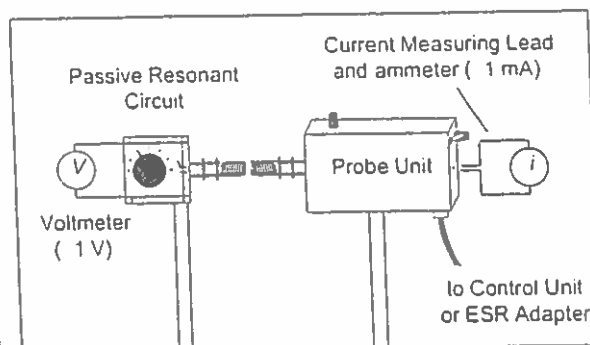

Figure A1 Setup for Using the Passive Resonant Circuit
The Passive Resonant Circuit can be used to demonstrate the principles of ESR using a classical (non-quantum) electromagnetic system. Set up the Probe Unit as for a standard ESR measurement, using the medium inductance probe coil. Instead of using the Helmholtz coils and the test sample, position the Passive Resonant Circuit as in Figure A1. To observe resonance absorption, tune the Probe Unit and the Resonant Circuit to the same frequency. This simple demonstration shows how energy from the RF oscillator can be absorbed by a resonant system that is tuned to the same frequency.
►NOTE: For a slightly simpler setup than is used for standard ESR measurements, you can use the Current Measuring Lead to connect the Probe Unit to a Ammeter (see Figure A1). This eliminates the need for an oscilloscope. You will be able to see the drop in current in the ammeter when resonance is achieved.